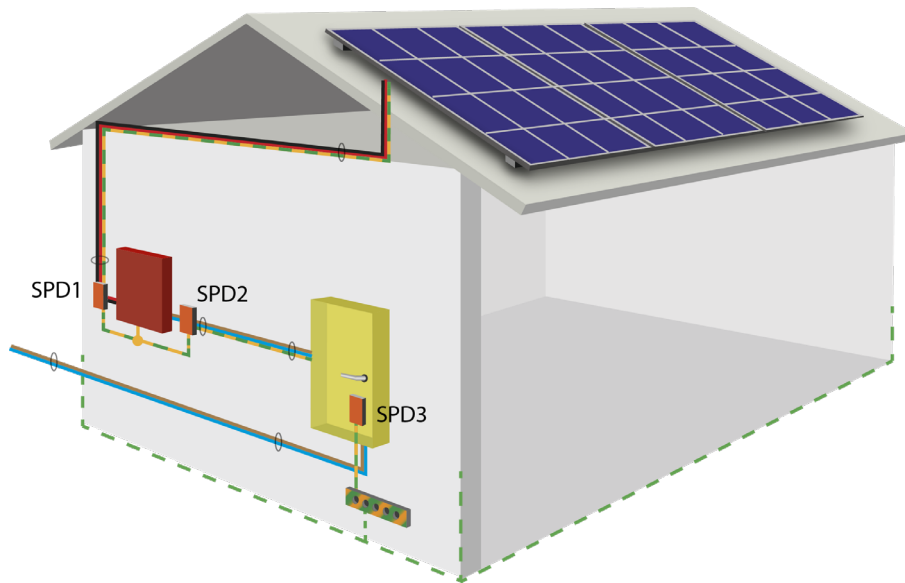

Figure 3. Building without LPS with roof mounted panels
This is by far the most common case where a building has no external LPS and so the risk of a direct lightning strike is not considered. This is the configuration that applies to 95% of residential solar PV installations in Australia. Figure 3 shows a building with roof mounted solar array and inverter mounted near the main switchboard. Normally the inverter would be mounted close to the main switchboard and in a location that is readily accessible, in accordance with AS/NZS5033.
2. Install an SPD on the DC input to the inverter (SPD1 in figure 3). This SPD must be specifically designed for DC PV applications. AC SPDs are unsuitable and could present a hazard under fault conditions.
3. Install an SPD on the AC output of the inverter (SPD2 in figure 3). Whilst a shunt type surge diverter is suitable, more effective protection can be obtained by using a series connected shunt diverter, like the Novaris SSP, which eliminates the detrimental effects of lead inductance.
5. Install an SPD on the incoming AC supply in the main switchboard (SPD3 in figure 3). A rating of $I_{\max} = 50\text{kA}$ is suitable for most applications, 100kA should be used if the exposure is high.